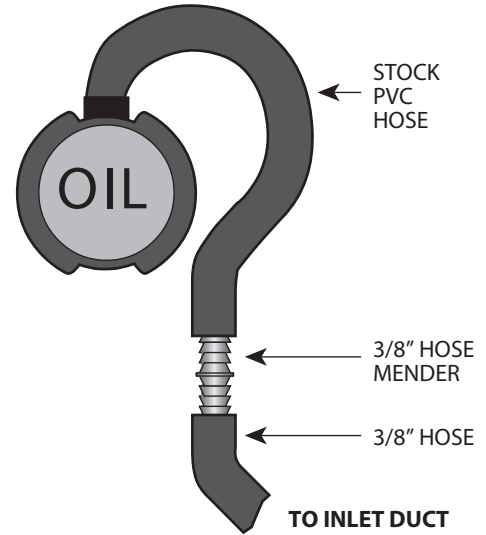

Fig. 15-a
- D. Using the 3/8" hose mender and length of 3/8" hose supplied, fit into the stock PCV hose and route to the barb fitting on the inlet duct of the supercharger. (See Fig. 15-a.)